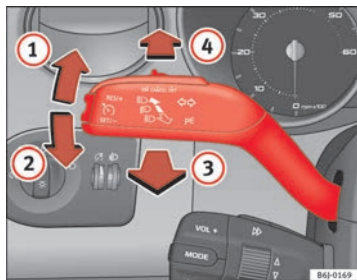

Fig. 58 Turn signal and main beam headlight lever
- Move the lever all the way up ⇒ fig. 58 ① to indicate **right**, and all the way down ② to indicate **left**.
- Press the lever forward ⇒ fig. 58 ④ to switch on the main beams.